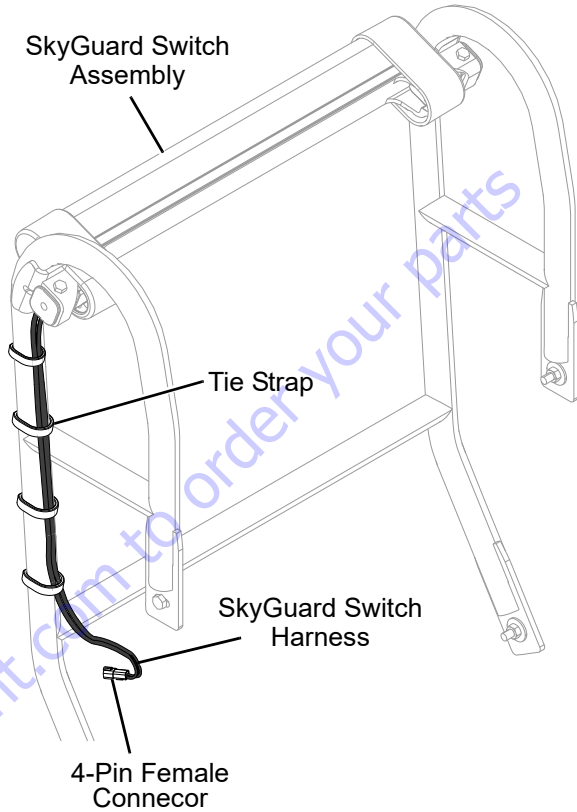

Figure 4-30.
9. Route the SkyGuard switch harness along SkyGuard support bracket (right side) and under the platform control box. Secure the harness using tie straps. See Figure 4-30.